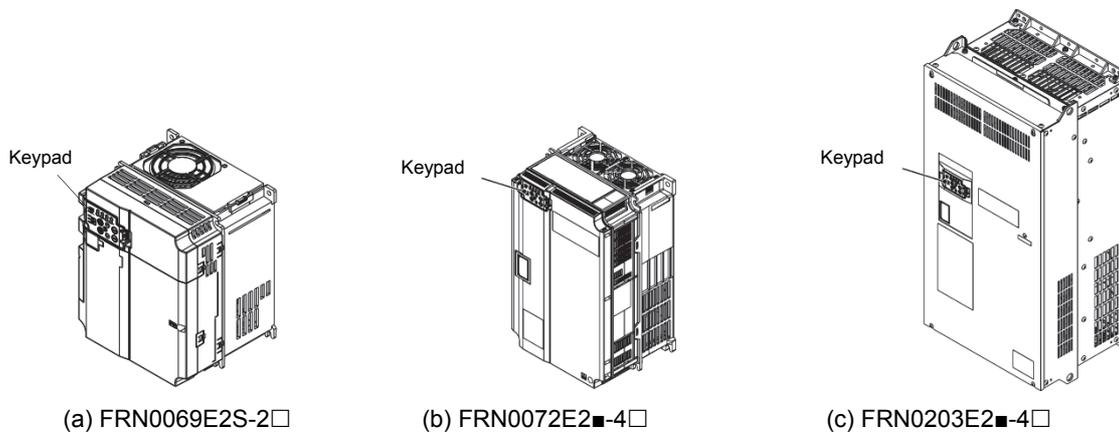

Figure 2.3-1 Attaching the Keypad to the Inverter Main Body
- Attach to the inverter main body (refer to Figure 2.3-1 (a), (b), (c))